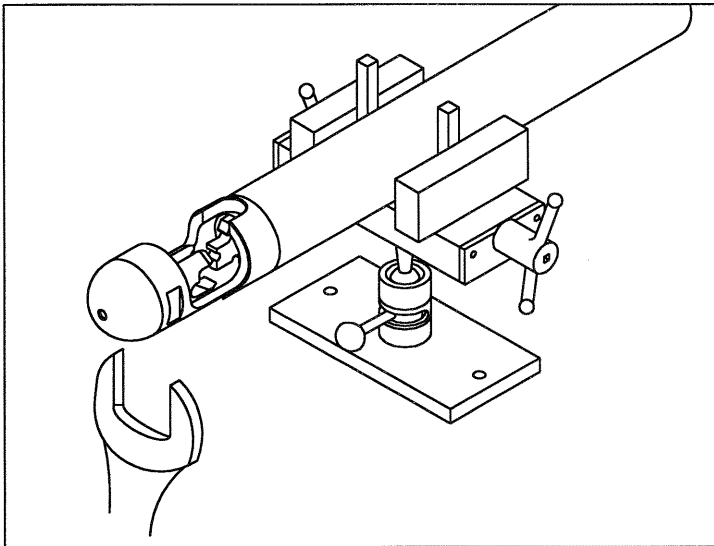

FIGURE 7
1. Clamp entire tool assembly in a vise and remove yoke as shown in Figure 7.
Remove yoke by clamping housing in a vise as shown in figure 7. Notice $3/8$ " square bars used to prevent damage and rotation. Use standard $2-1/4$ " open end wrench and turn yoke counterclockwise to loosen.